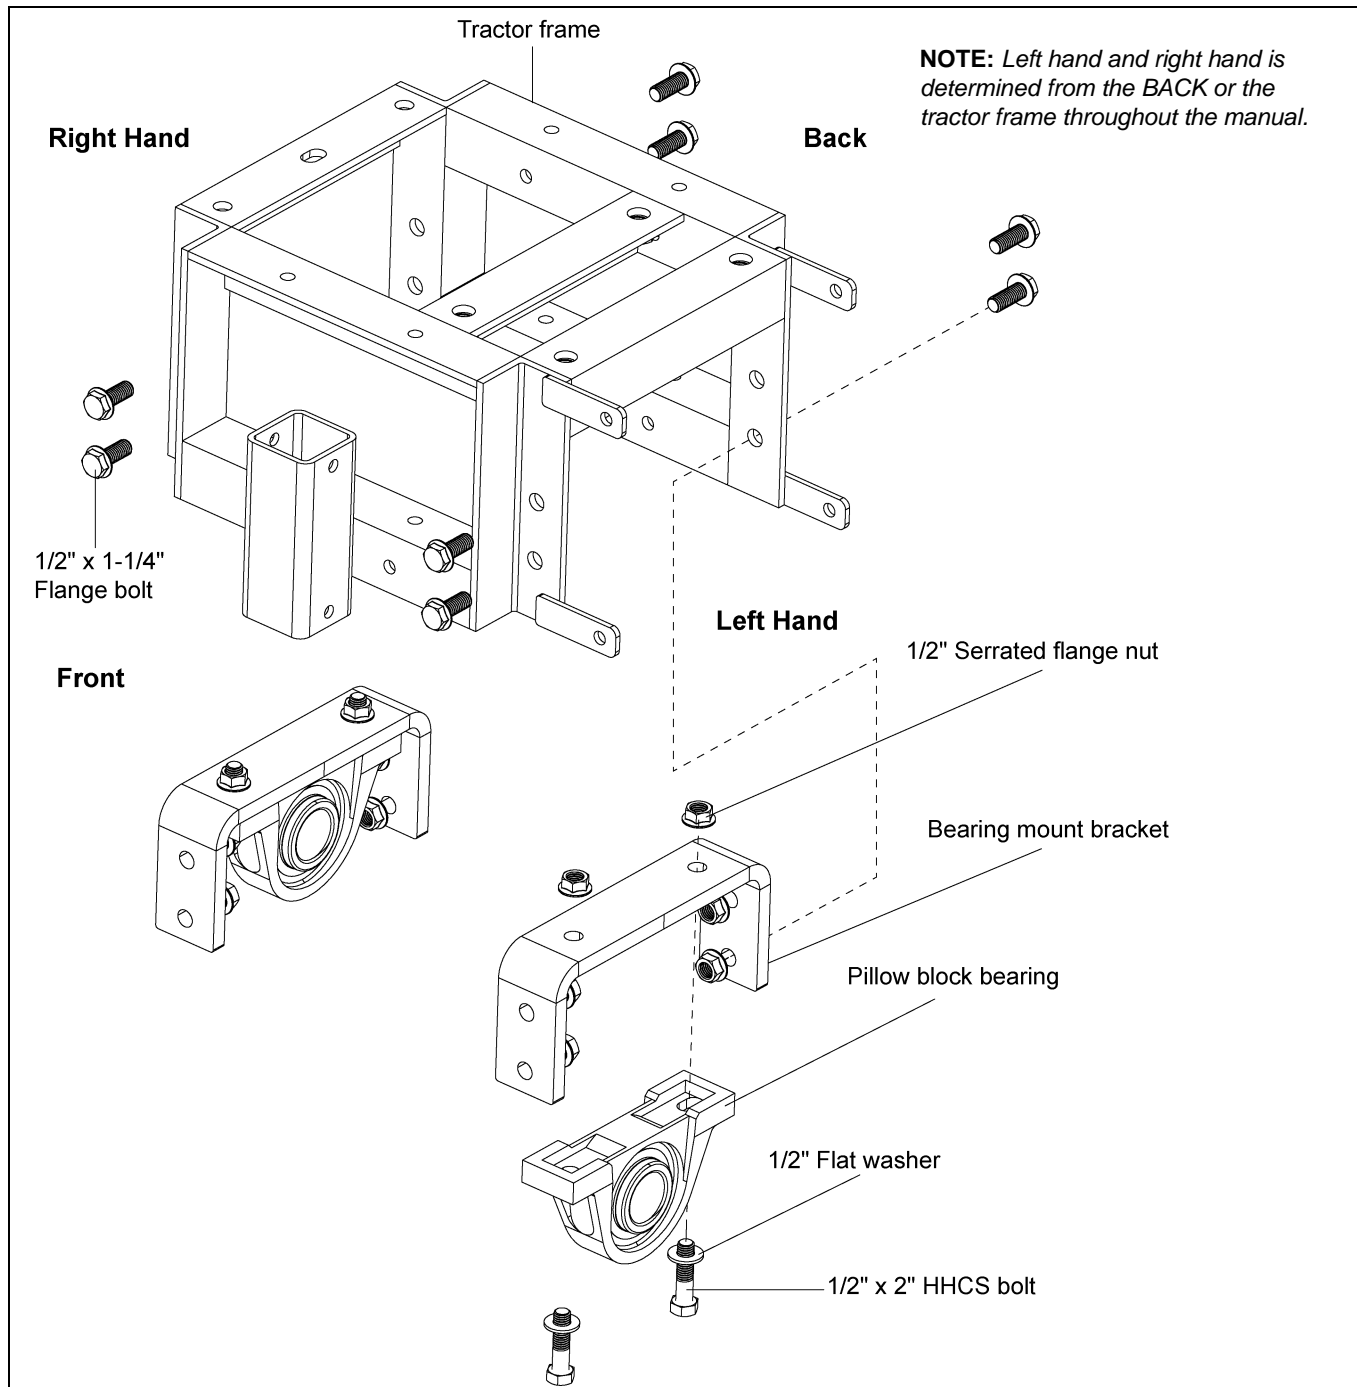

Figure 4A
2. Bolt each pillow block bearing to a bearing mount bracket using two (2) 1/2"-13 x 2" hex head cap screws, two (2) flat washers and serrated flanged nuts.
3. Bolt each bearing mount bracket to the tractor frame using two (2) 1/2"-13 x 1-1/4" flange bolts and serrated flanged nuts. (See Figure 4A.)